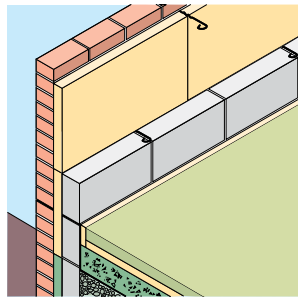

Figure 2
3. Build up a complete section of the leading leaf to one course above the next row of wall ties spaced at max. 900mm horizontally (Figure 2). Ensure that all mortar joints are properly filled, particularly the perpend.